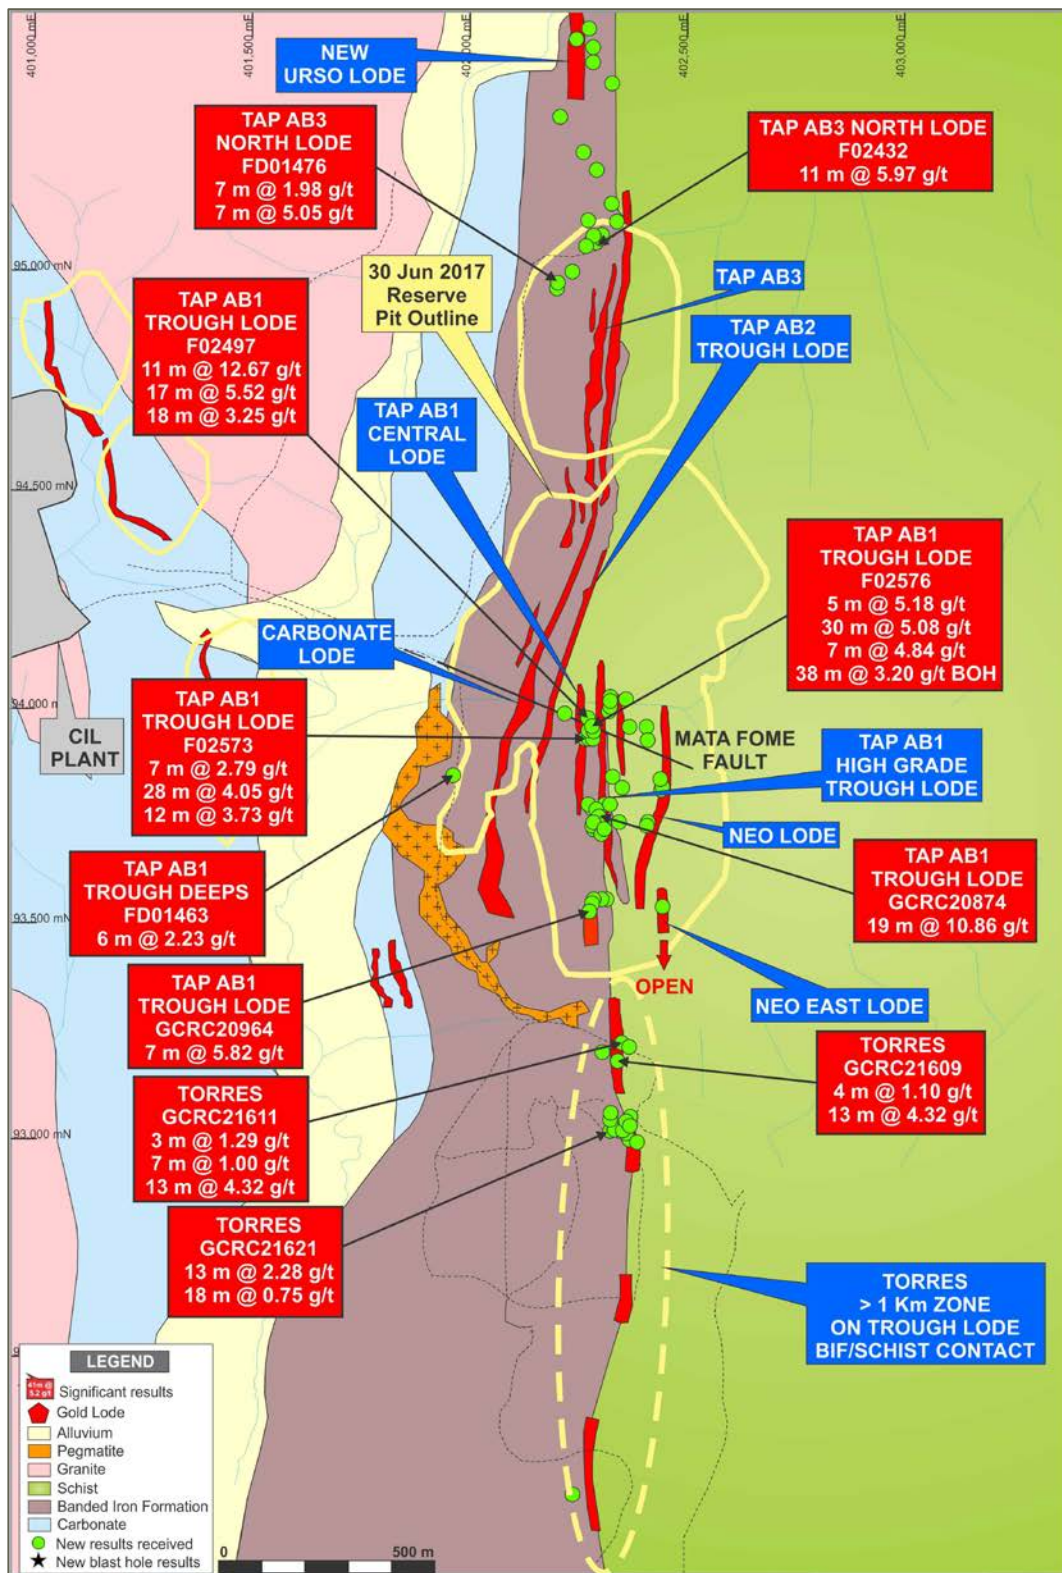
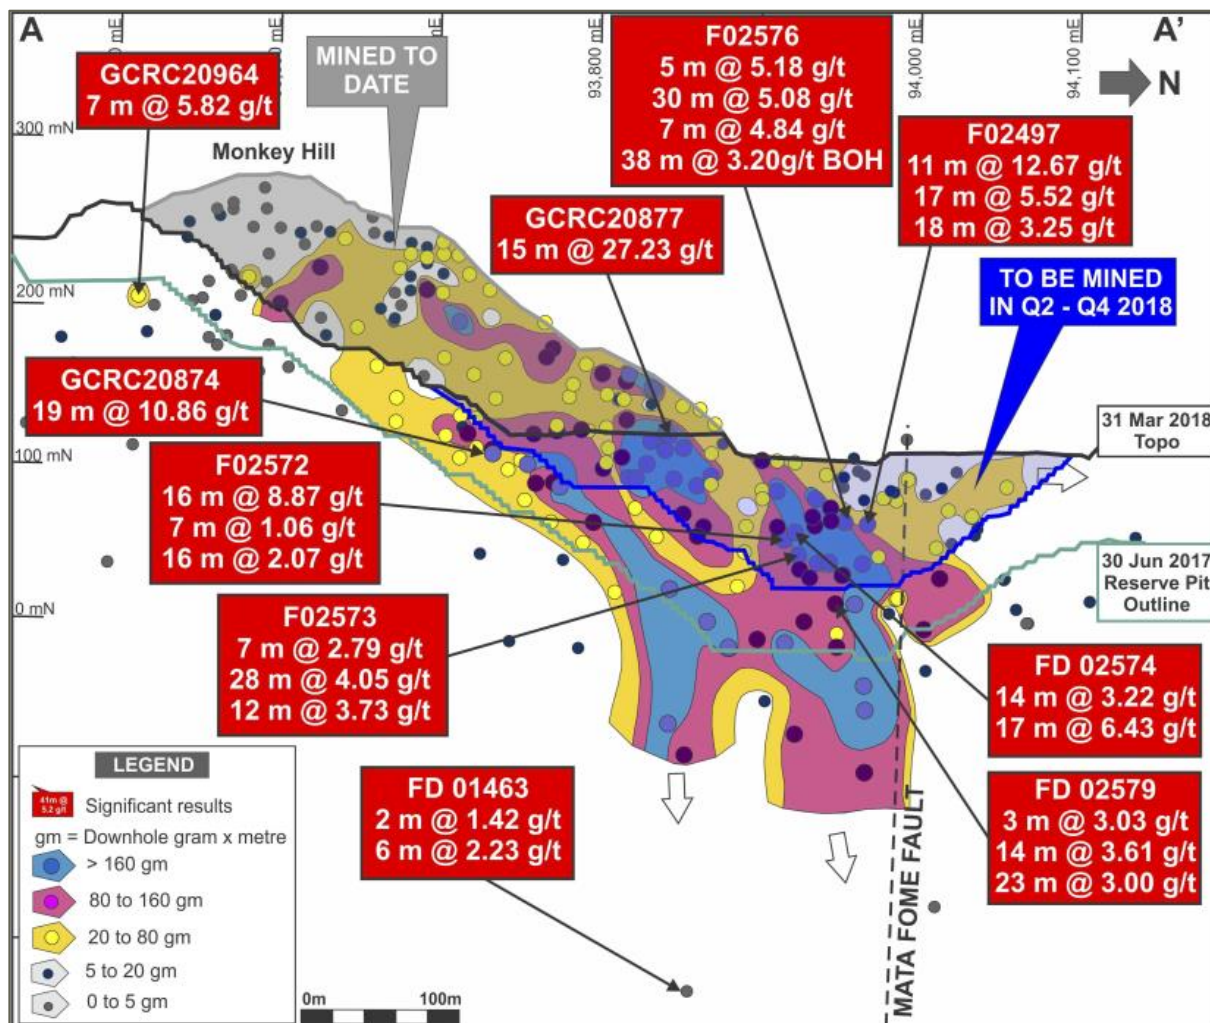

Figure 1. Tap AB Complex plan showing location of new drill results
Figure 2. TAP AB1 Trough Lode Longsection showing location of new drill results
- **Tap AB1 Trough Lode** – centrally located in the mining lease and currently being mined (Fig. 1)
- **Torres** – located in the south of the mining lease, discovered in 2016 (Fig. 1)
Infill drill results from the Tap AB1 Trough Lode (Fig. 1) confirm the high grade tenor and width of the shoots planned to be mined over the remainder of 2018 (Table 1). The continuity of the very high grade central core zones in the Tap AB1 Trough Lode is demonstrated with **15 m @ 27.23 g/t gold** from 29 m (including **1 m @ 344.24 g/t**) intersected in the upper part of the lode. Importantly, the core high grade zones of the Tap AB1 Trough Lode shown by the > 160 gram x meter blue contour in Fig. 2 has just commenced mining, and most of the material movement to date has been on the lower grade upper sections of the deposit, from the top of Monkey Hill (at 270 m RL) down to the 31 March 2018 mined surface (at 110 m RL, Fig. 2).